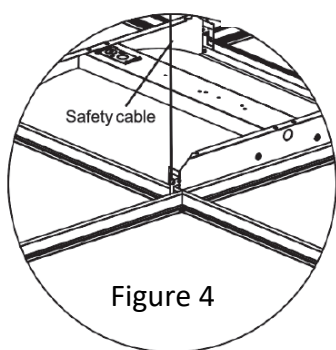

Figure 4
4. If required by building codes, use a hanger wire (not supplied) to appropriately tie off fixture (Figure 4).